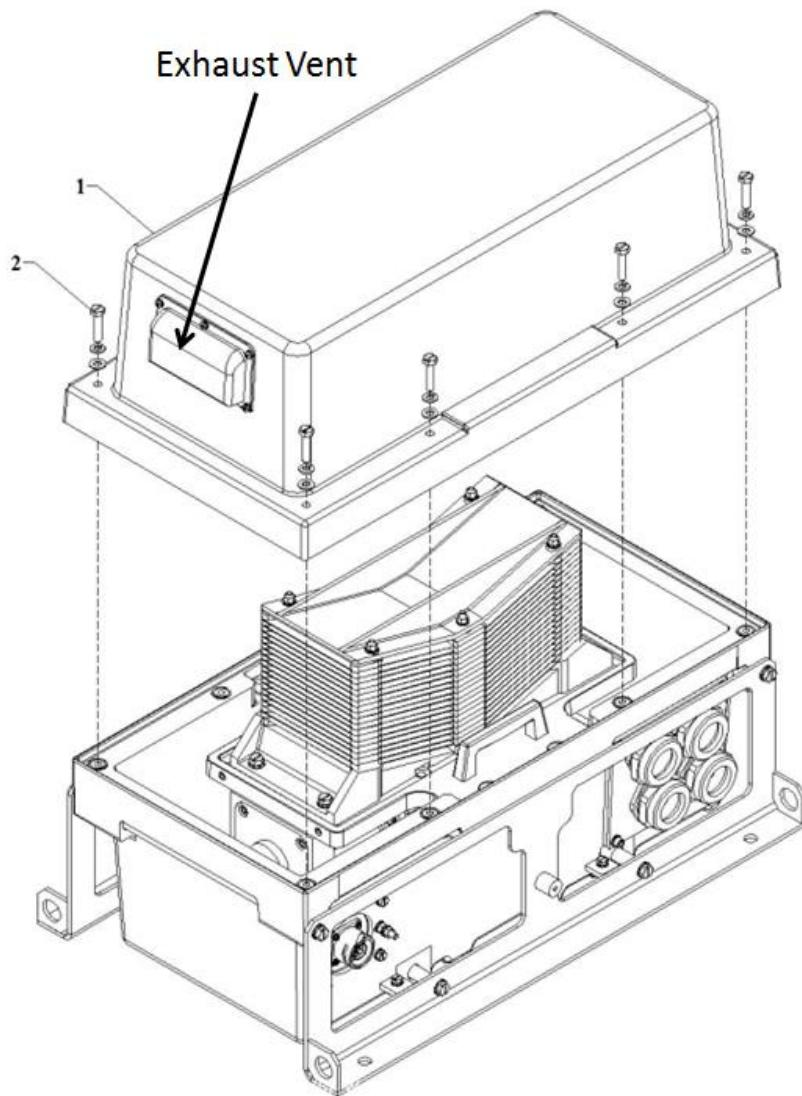

Figure 5-6: HSCB Cover Removal
3. Remove the cover (1) as shown in Figure 5-6 by removing the eight M8 x 8 bolts (2). The bolt heads are 13 mm.
1. If not already done, remove the cover (1) as shown in Figure 5-6 by removing the eight M8 x 8 bolts (2). The bolt heads are 13 mm.
9. Install the eight M8 bolts that secure the HSCB cover with a 13 mm socket as seen in Figure 5-6. Tighten to 14 Nm (10.3 ft-lbs.).